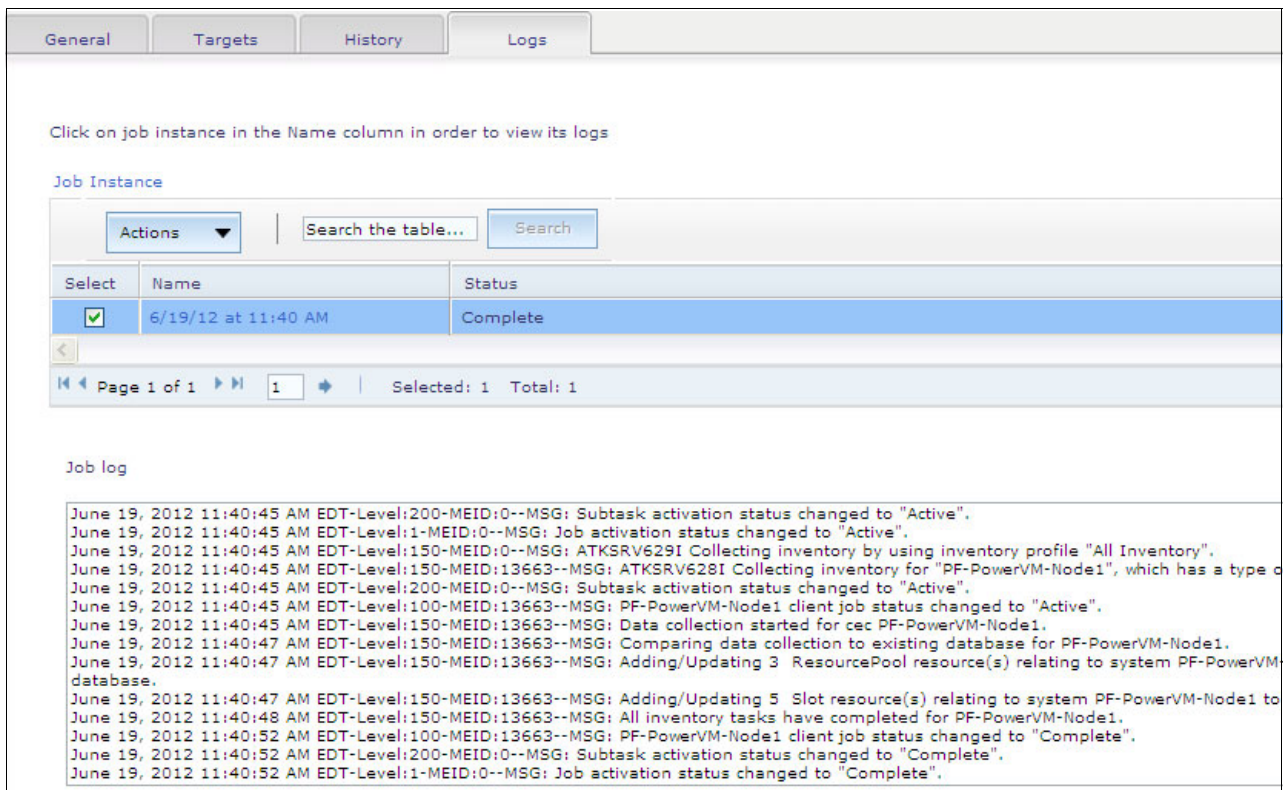

Figure 10-33 Checking the log in the Logs tab
- Check the log for a job, as shown in Figure 10-33.